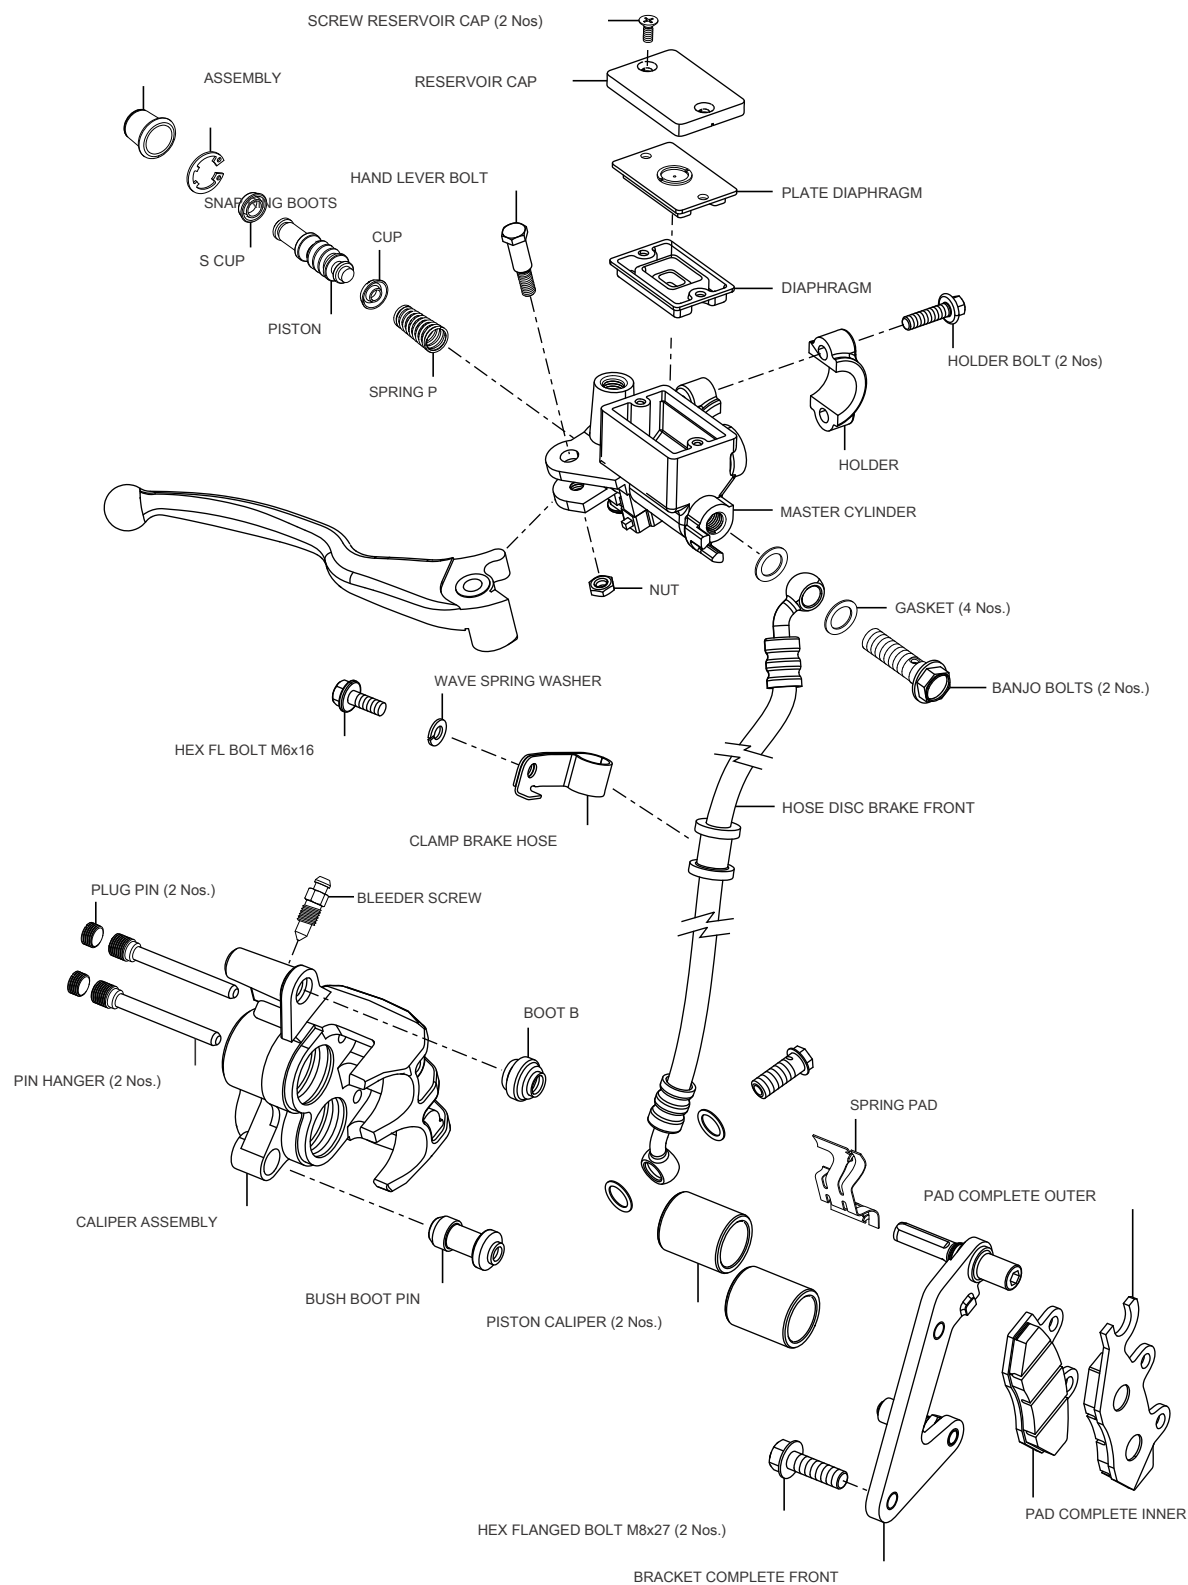

Fig. 6.43
- 1 Reassemble the master cylinder in the reverse order of dismantling. **Refer Fig. 6.43 for assembly details.**